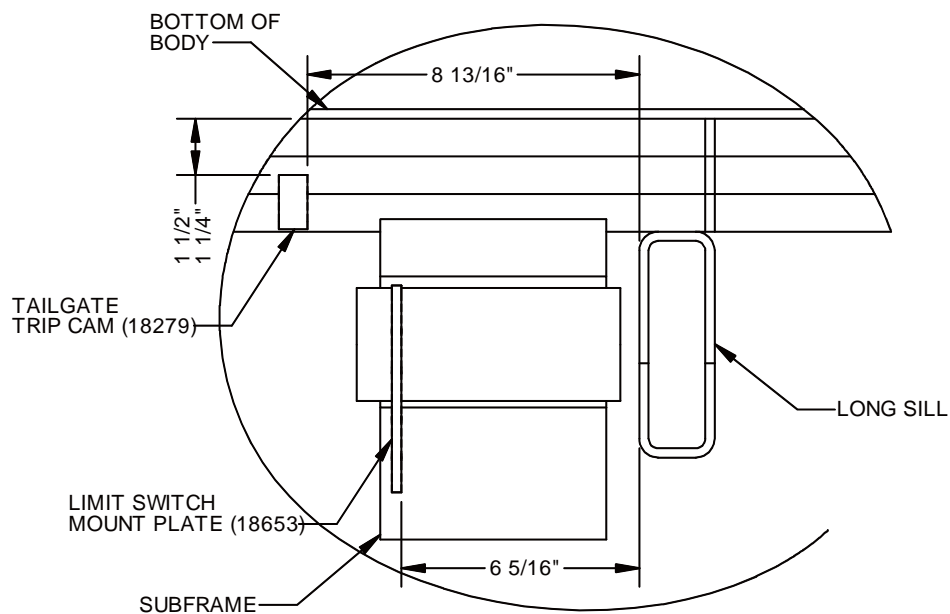
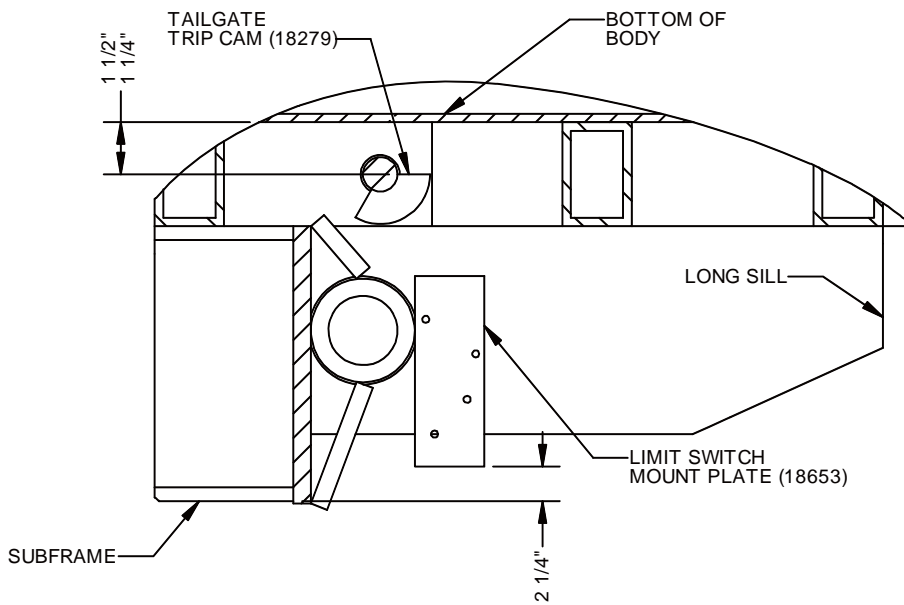
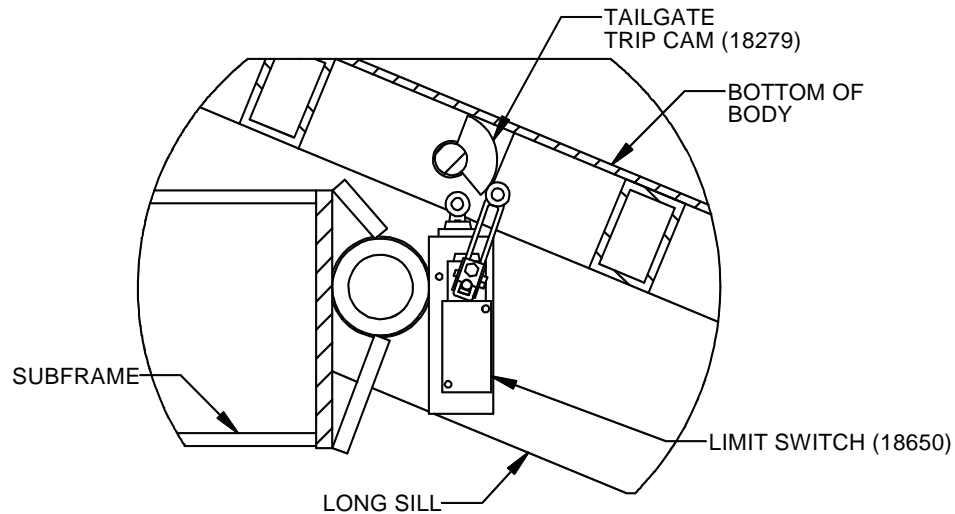

Figure 1 – 12 and 14 Foot Limit Switch Mount Plate/Cam Location
Figure 3 – 14 Foot Side View Limit Switch Mount Plate/Cam Location
Figure 4 – Setting Limit Switch
3. Position the limit switch mount plate (18653) on the subframe and the tailgate trip cam (18279) on the tailgate latch rod and weld in place. Refer to Figures 1 through 3 for location details. Note the length of the subframe. The position of the limit switch mount plate (18653) is different for 12 and 14 foot subframes. Refer to Figure 3 and Figure 4.
5. Fully release the tailgate. Raise the bed to 22 degrees, using a protractor to indicate the angle between the bed and horizontal. Set the limit switch (18650) with the adjustable arm such that the roller at the end of the arm is in contact with the tailgate trip cam (18279) and at an angle that triggers the limit switch (18650). Refer to Figure 4.